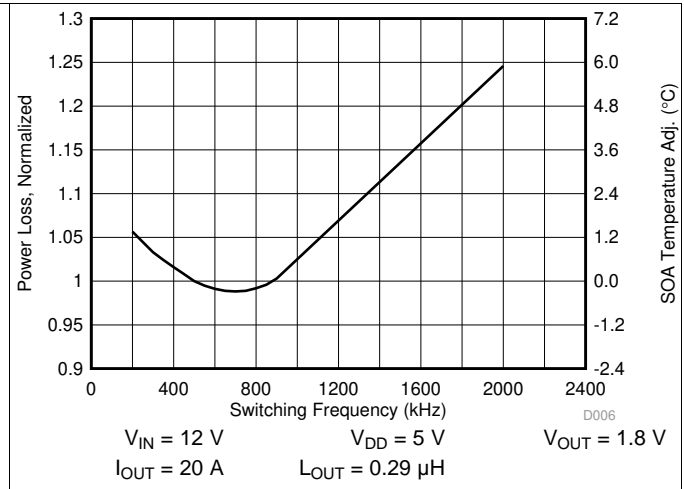

Figure 6. Normalized Power Loss vs Frequency
- Normalized power loss for switching frequency  $\approx$  0.99 (Figure 6)
- SOA adjustment for switching frequency  $\approx$  -0.2°C (Figure 6)